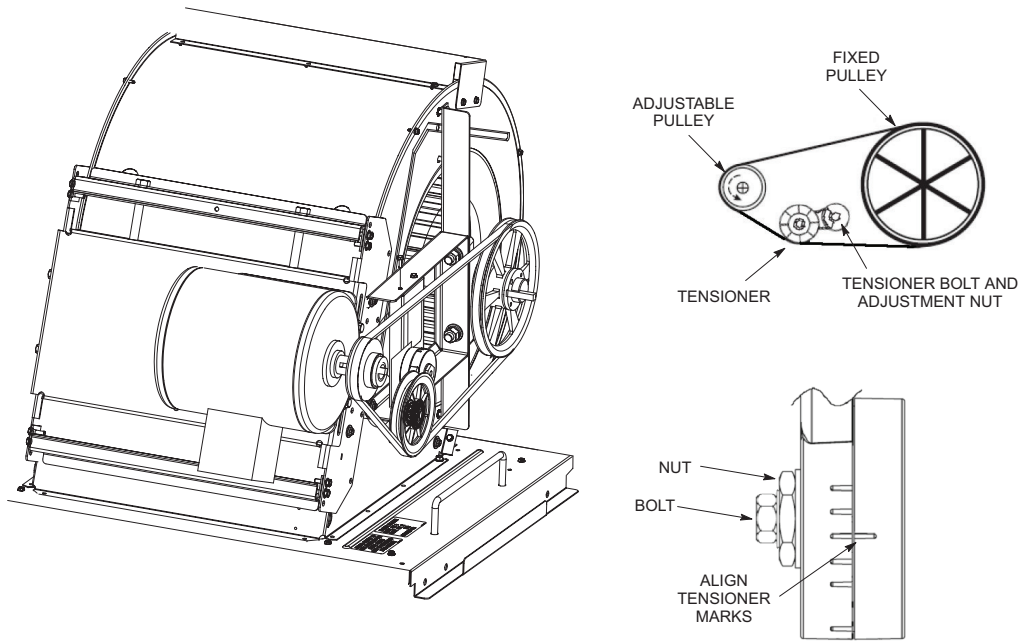

FIGURE 12
- 1 - Loosen the bolt in the center of the tensioner. See figure 12.
- 3 - Using a 15/16" wrench, turn the tensioner nut until marks align as shown in figure 12.